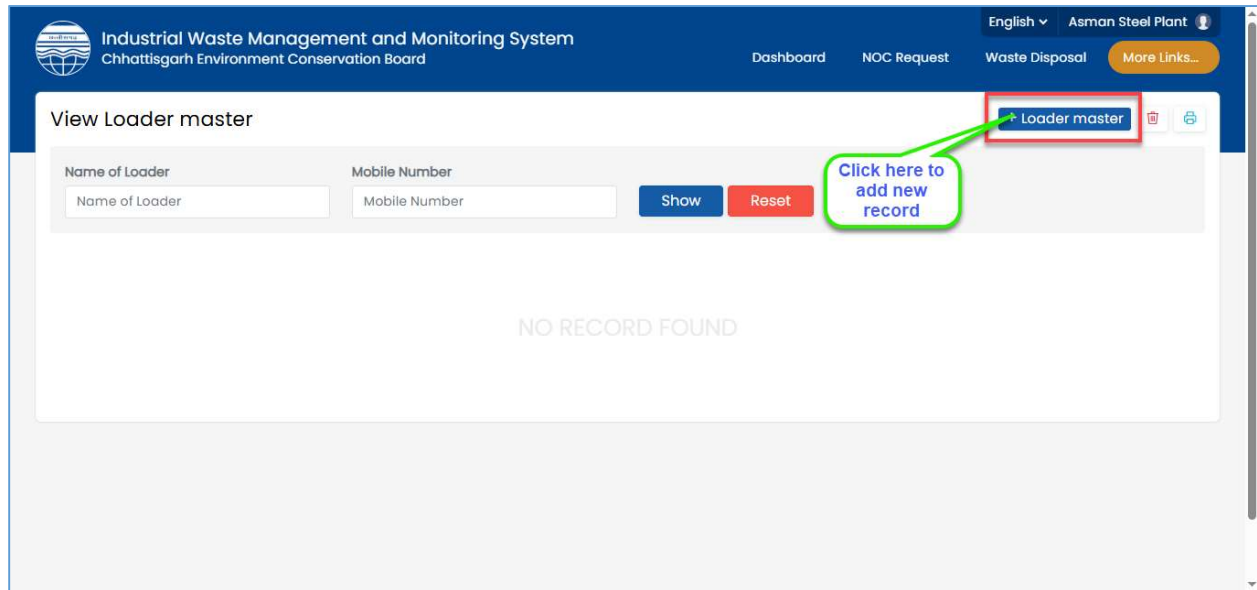

Figure 3-16 View Loader Master Screen
- Refer **Fig 3-16**. To add new loader information in the system, click on the **Loader Master** link, and navigate to respective add section.